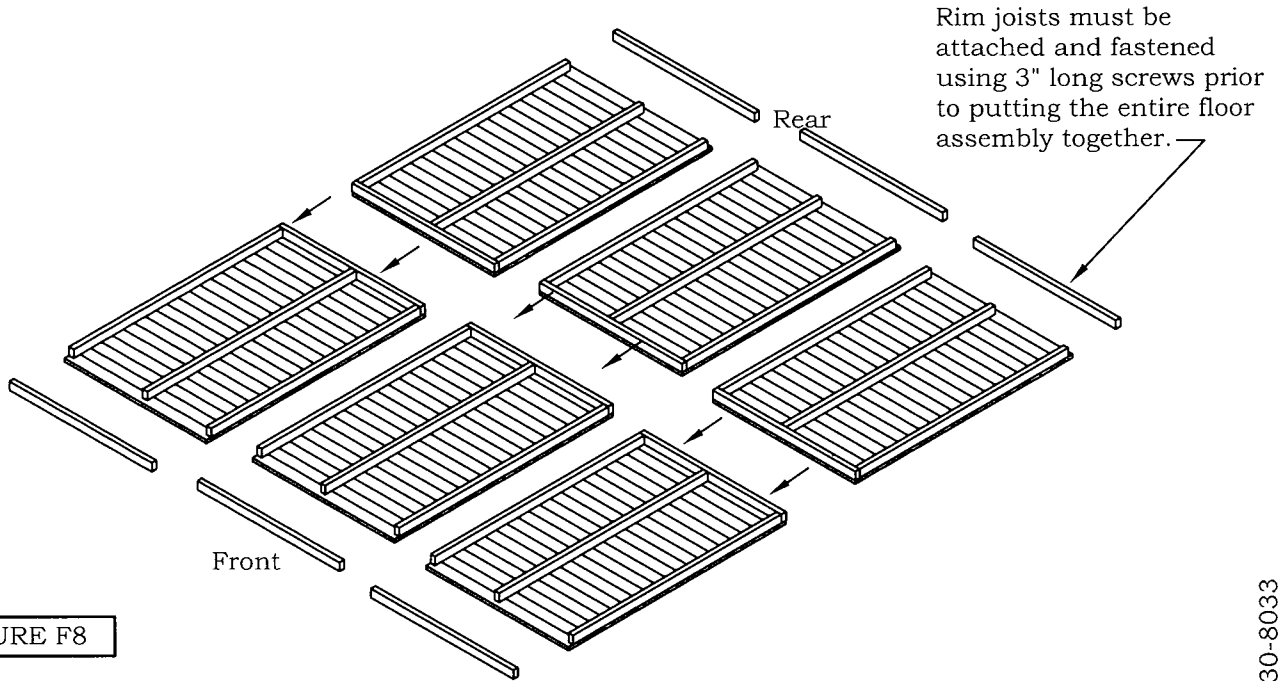

FIGURE F8
- Unpack the floor sections and place them on level ground with decking facing down as shown in Figure F8. Push the floor panels together as shown in Figure F8.